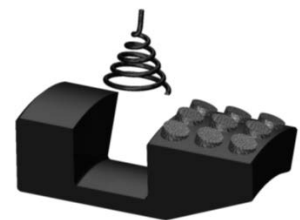

Fig. 4
**NOTE10:** Install one (1ea) spring per slip (Fig. 4).